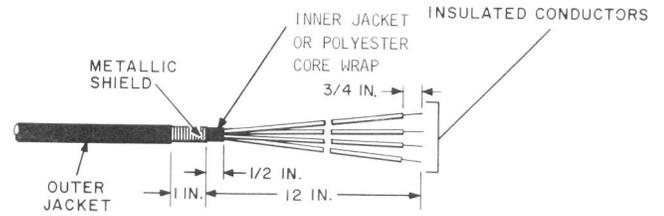

Fig. 24—Prepared Service Wire—K-Type Cable Closure
7.07 Prepare the service wire for termination in the K cable closure as shown in Fig. 24.